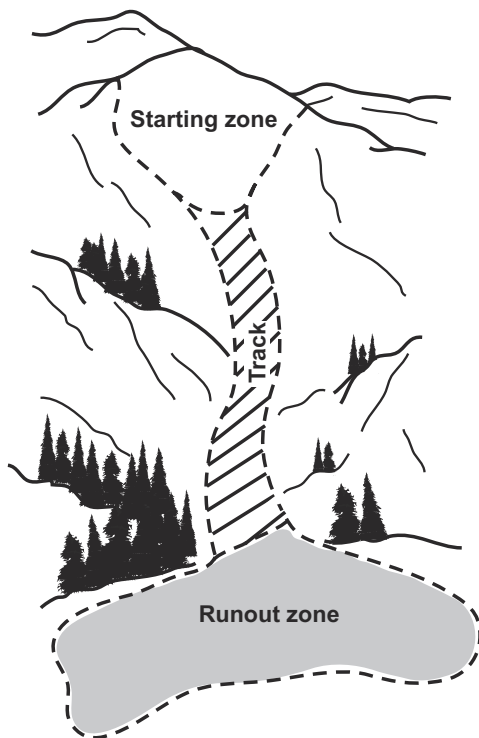

Figure 6-1. Avalanche Path.
- *Avalanche path*. The avalanche path is the area in which an avalanche runs. An avalanche is generally divided into three parts—starting zone, track, and runout zone, which are shown in figure 6-1.